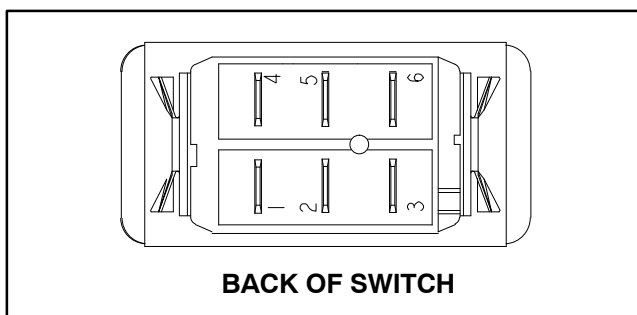

Figure 35
4. With the use of a multimeter (ohms setting), the switch functions may be tested to determine whether continuity exists between the various terminals for each switch position. The switch terminals are marked as shown in Figure 35. The circuitry of the switch is shown in the chart below. Verify continuity between switch terminals. Replace switch if testing identifies a faulty switch.